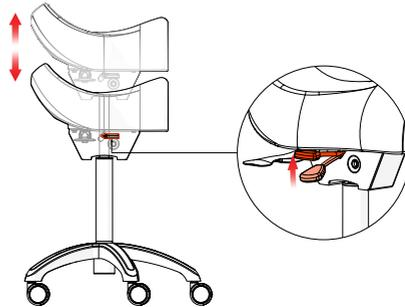

Fig.27
- Pull up the lever **A** (Fig. 27).
- Pull down the lever **B** (Fig.27) and maintain it down.
- Pull up the lever **B** (Fig.27) to fix the position.